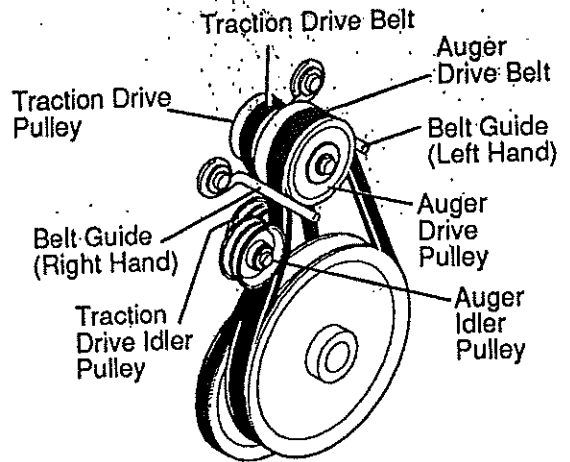

FIG. 6-SERV & ADJ
- Loosen the belt guides (See FIG. 6-SERV & ADJ) and pull away from the auger drive pulley.
## TRACTION DRIVE BELT (See FIG. 6-SERV & ADJ)